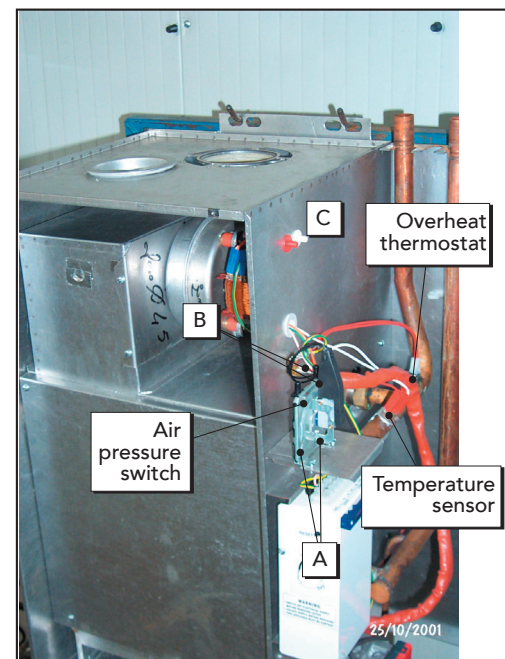

Fig. 47
7.03 Overheat Thermostat (fig. 47)
7.06 Burner Removal (fig. 47)